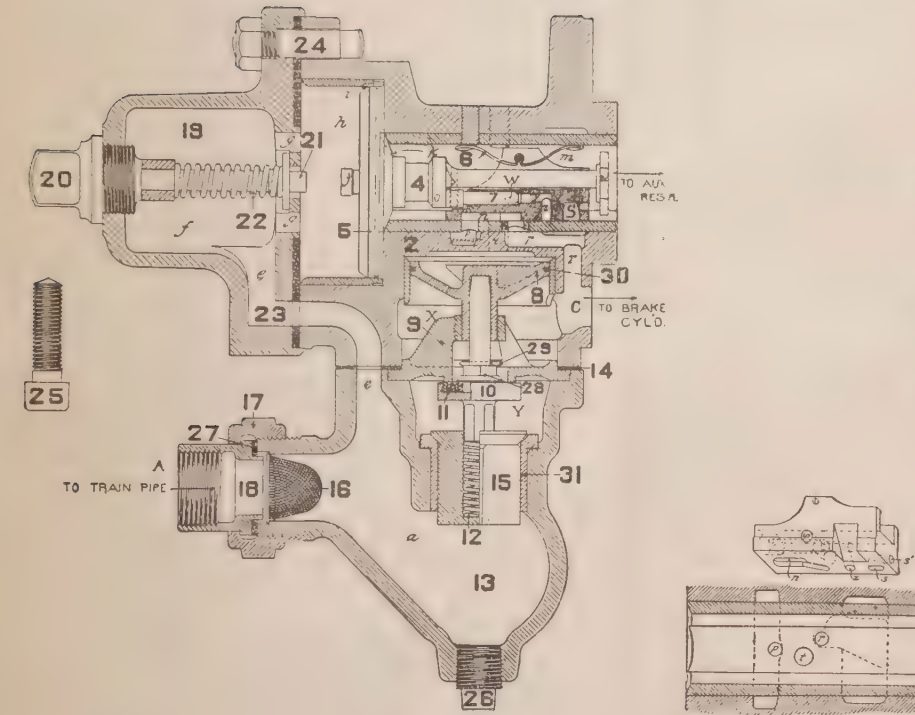

Fig. 288. Release Position.
A. Controls the connections between (1) brake cylinder and the atmosphere, (2) auxiliary reservoir and brake cylinder, and (3) auxiliary reservoir and the chamber above the emergency piston 8.
A. Air from the train pipe enters at *A* (Fig. 288, Plate II, flows through *c*, *f*, *g*, and *h*, past the main piston and through the grooves *i* and *k*, and chamber *m* to the auxiliary reservoir, until the pressures equalize (usually at 70 pounds).
A. The engine runner lets the main-reservoir excess pressure into the train pipe, so that the main piston is forced to extreme right position, Fig. 288; air is discharged through *r*, *n*, and *p* into the atmosphere; the feed groove *i* being uncovered, the auxiliary reservoir is recharged from the train pipe.